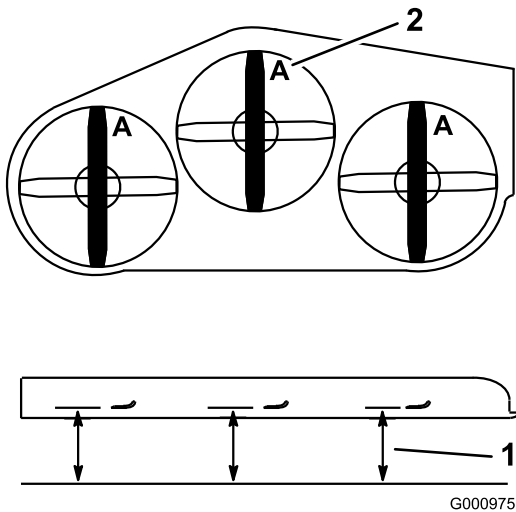

Figure 70
3. With the machine on level surface, position one blade front-to-rear. Measure at **A** and from level surface to the cutting edge of the blade tips (Figure 70). For 36 inch mower decks use Figure 71.